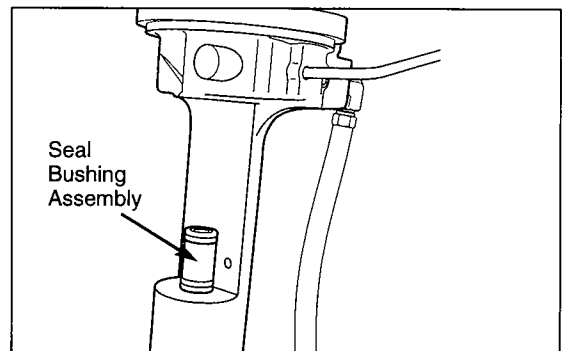

Figure 6
3. With tool in a horizontal or nose-down position, place the Seal Bushing Assembly over the exposed end of the Hydraulic Piston (Item 17). (See Figure 6)